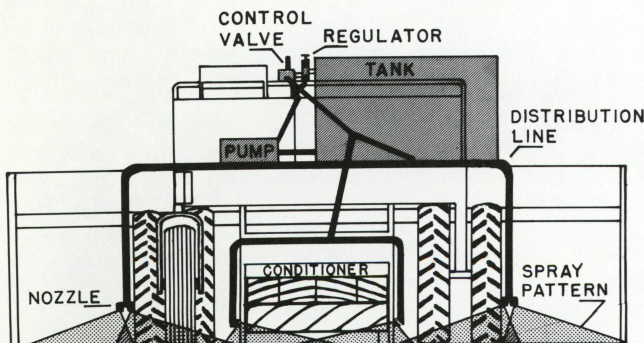

Figure 3. Rear-view schematic of a windrower-sprayer to illustrate the position of nozzles and the spray pattern.
**Nozzles**—Experimental machines set up for demonstrations used double nozzles at the outside positions and single nozzles at each side of the conditioner as shown in Figure 3. Spray tips were Spraying Systems Company 4186-1/4-2T0C01 and 4186-1/4-2T0C02. Both sets of tips have a wide spray angle to one side as illustrated in Figure 3 and were identical, except the 02 tips have a flow rate (15 gpa for all six nozzles) twice that of the 01 tips. The nozzles were mounted from 9 to 12 inches above the soil surface at an approximate angle of 45°. The angle was adjusted to give best coverage for the entire machine width.